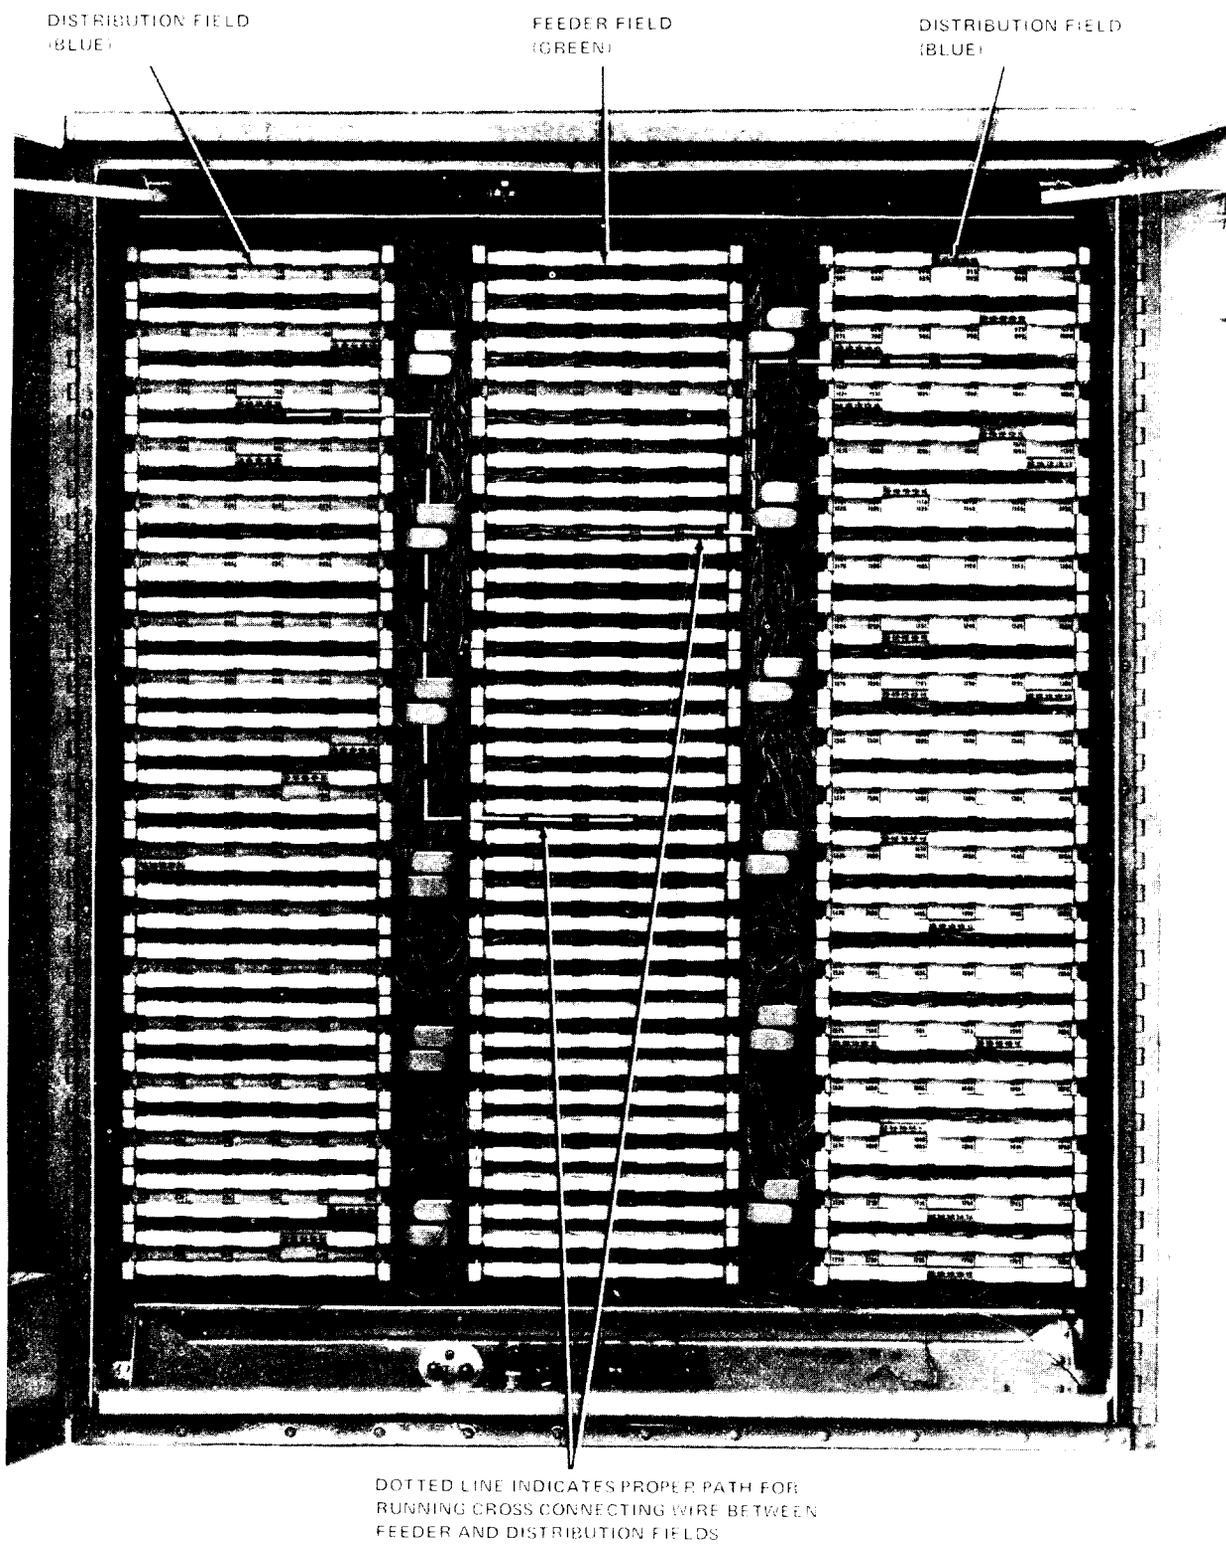

Fig. 1—40-Type Cabinet Equipped With Three Panels of 88-Type Connecting Blocks
2.01 Before proceeding, it is important that craft personnel become familiar with the following methods of pair identification (Fig. 1 and 2):
3.01 The dotted lines in Fig. 1 and 2 indicate proper paths for running cross-connecting wires in 40-type cabinets equipped with 3 and 1 panels, respectively.